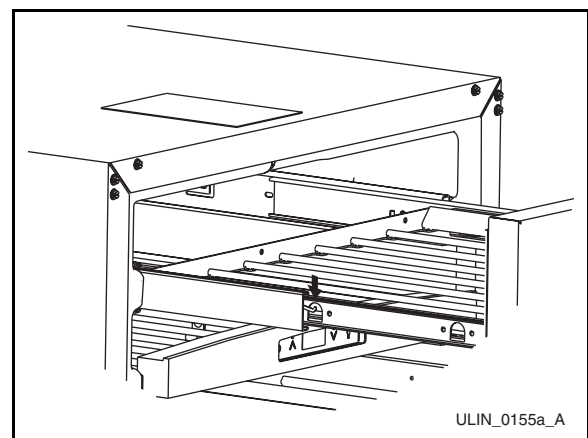

Figure 26
3. Press the left rack release lever (**Figure 26**) down, and at the same time, lift the corresponding right rack release lever up, and pull the rack out until it is free of the tracks and the cabinet.